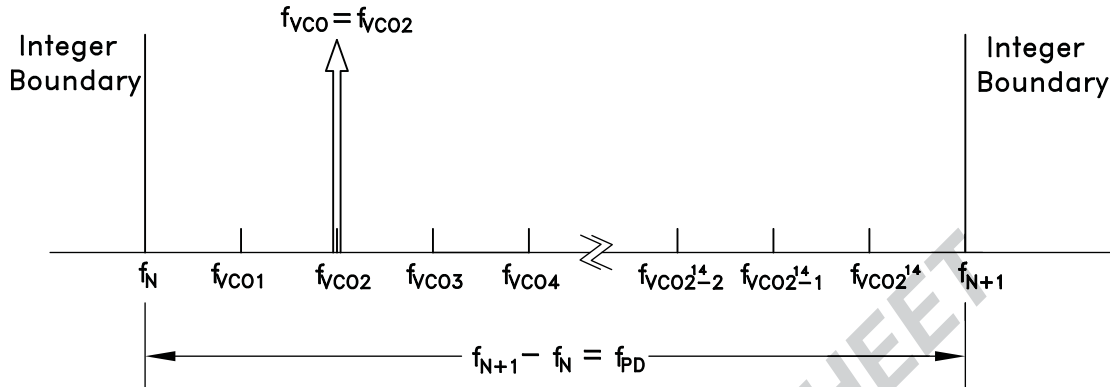

Figure 71. Exact Frequency Tuning
and fVCOk are the channel step frequencies where 0 < k < 224-1, As shown in Figure 71.
Some fractional PLLs are able to achieve this by adjusting (shortening) the length of the Phase Accumulator (the denominator or the modulus of the Delta-Sigma modulator) so that the Delta-Sigma modulator phase accumulator repeats at an exact period related to the interval frequency ( $f_{VCOk} - f_{VCO(k-1)}$ ) in Figure 71. Consequently, the shortened accumulator results in more frequent repeating patterns and as a result often leads to spurious emissions at multiples of the repeating pattern period, or at harmonic frequencies of  $f_{VCOk} - f_{VCO(k-1)}$ . For example, in some applications, these intervals might represent the spacing between radio channels, and the spurious would occur at multiples of the channel spacing.
If it is desirable to have multiple, equally spaced, exact frequency channels that fall within the same interval (ie.  $f_N \leq f_{VCOk} < f_{N+1}$ ) where  $f_{VCOk}$  is shown in Figure 71 and  $1 \leq k \leq 2^{24}$ , it is possible to maintain the same integer-N (Reg 03h) and exact frequency register (Reg 0Ch) settings and only update the fractional register (Reg 04h) setting. The Exact Frequency Channel Mode is possible if (Eq 16) is satisfied for at least two equally spaced adjacent frequency channels, i.e. the channel step size.
To configure the HMC1190ALP6NE for Exact Frequency Channel Mode, initially and only at the beginning, integer (Reg 03h) and exact frequency (Reg 0Ch) registers need to be programmed for the smallest  $f_{VCO}$  frequency ( $f_{VCO1}$  in Figure 71), as follows:
1. Calculate and program the integer register setting  $\text{Reg 03h} = N_{INT} = \text{floor}(f_{VCO1}/f_{PD})$ , where  $f_{VCO1}$  is shown in Figure 71 and corresponds to minimum channel VCO frequency. Then the lower integer boundary frequency is given by  $f_N = N_{INT} \cdot f_{PD}$ .
$\text{Reg 04h} = N_{FRAC} = \text{ceil}\left(\frac{2^{24}(f_{VCOk} - f_N)}{f_{PD}}\right)$  where  $f_N = \text{floor}(f_{VCO1}/f_{PD})$ , and  $f_{VCO1}$ , as shown in Figure 71, represents the smallest channel VCO frequency that is greater than  $f_N$ .
4. To change from channel 1 ( $f_{VCO1} = 2800.2$  MHz) to channel 2 ( $f_{VCO2} = 2800.3$  MHz), only Reg 04h needs to be programmed, as long as all of the desired exact frequencies  $f_{VCOk}$  (Figure 71) fall between the same integer-N boundaries ( $f_N < f_{VCOk} < f_{N+1}$ ). In that case